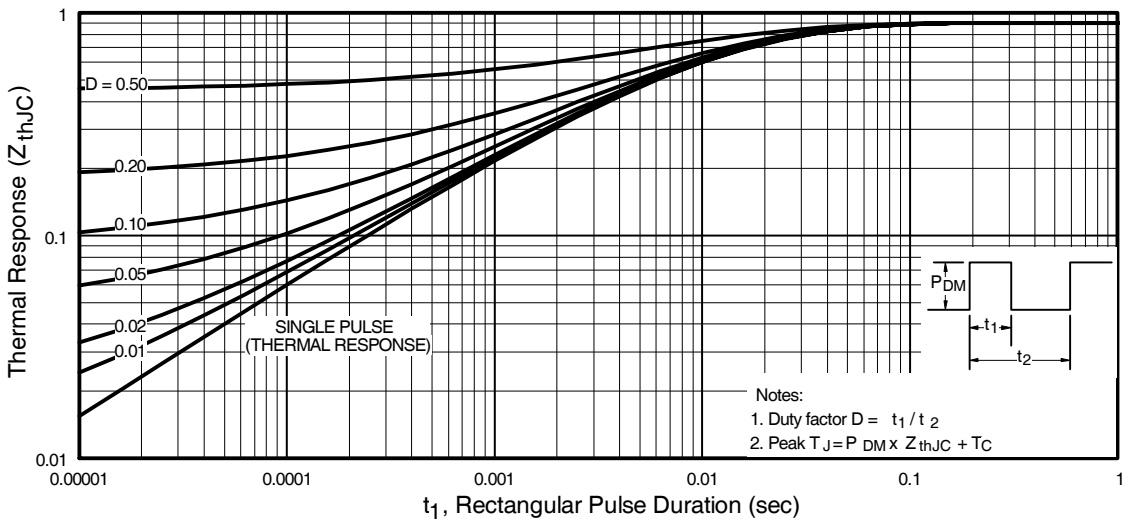

Fig 11. Maximum Effective Transient Thermal Impedance, Junction-to-Case
① Repetitive rating; pulse width limited by max. junction temperature. (See fig. 11)
② Starting $T_J = 25^\circ\text{C}$, $L = 194\mu H$